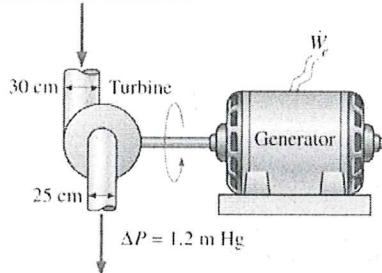

Figure 3
- Water enters a hydraulic turbine through a 30-cm-diameter pipe at a rate of 0.6 m³/s and exits through a 25-cm diameter pipe (see fig.3). The pressure drop in the turbine is measured by a mercury manometer to be 1.2 m. For a combined turbine-generator efficiency of 83%, determine the net electric power output. Disregard the effect of the kinetic energy correction factors.